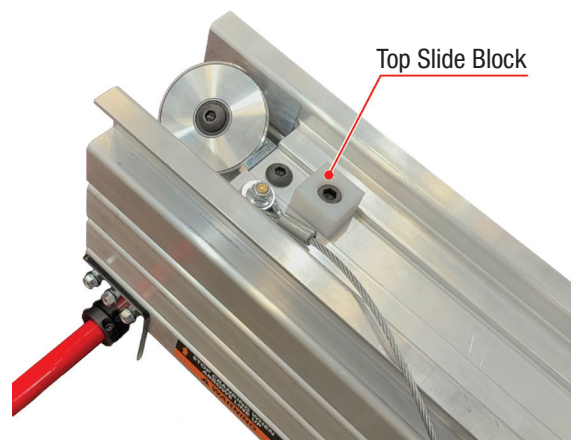

Figure 4-29: Top Slide Block
2. Move each mast section up or down to reveal the affected slide block (see Figures 4-29 and 4-30). Using 3/8 in. hex wrench, remove the damaged white plastic slide block and discard.